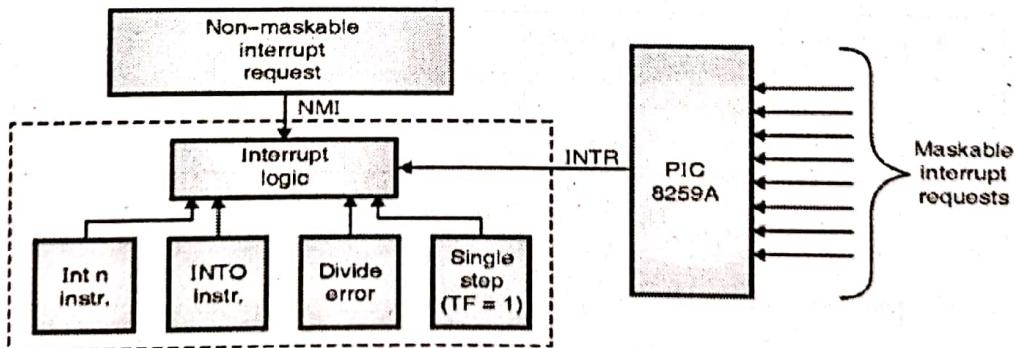

Fig. 2-Q. 5(b) : Interrupt sources
- The 8086 can handle upto 256 different interrupt types. Interrupts may be initiated by devices external to the CPU; in addition, they also may be triggered by software interrupt introductions and under certain condition, by the CPU itself. Fig.2-Q.5(b) shows interrupt sources for 8086.
- In Fig. 2-Q. 5(b) 8086 have two lines that external device may use to signal interrupts. The INTR line is usually driven by an Intel 8259A (PIC), which in turn connected to the devices that need interrupt services.